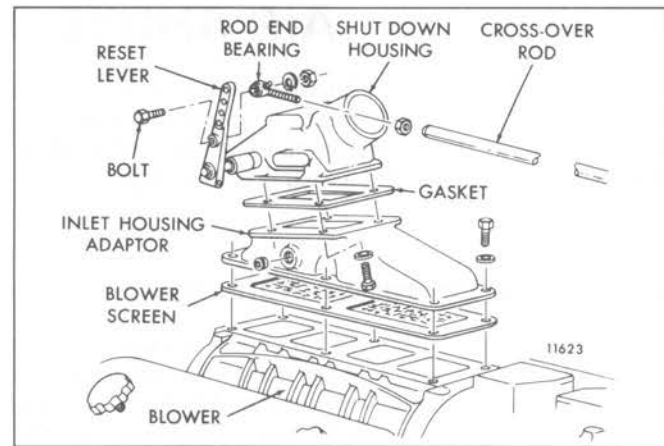

Fig. 4 – Air Shutdown Housing Details and Relative Location of Parts (Rear of Dual Mounting – Turbocharged Engines)
4. When dual air shutdown housings (Fig. 4) have been installed, position the crossover rod between the shutdown housings at the reset lever and the shutdown lever.